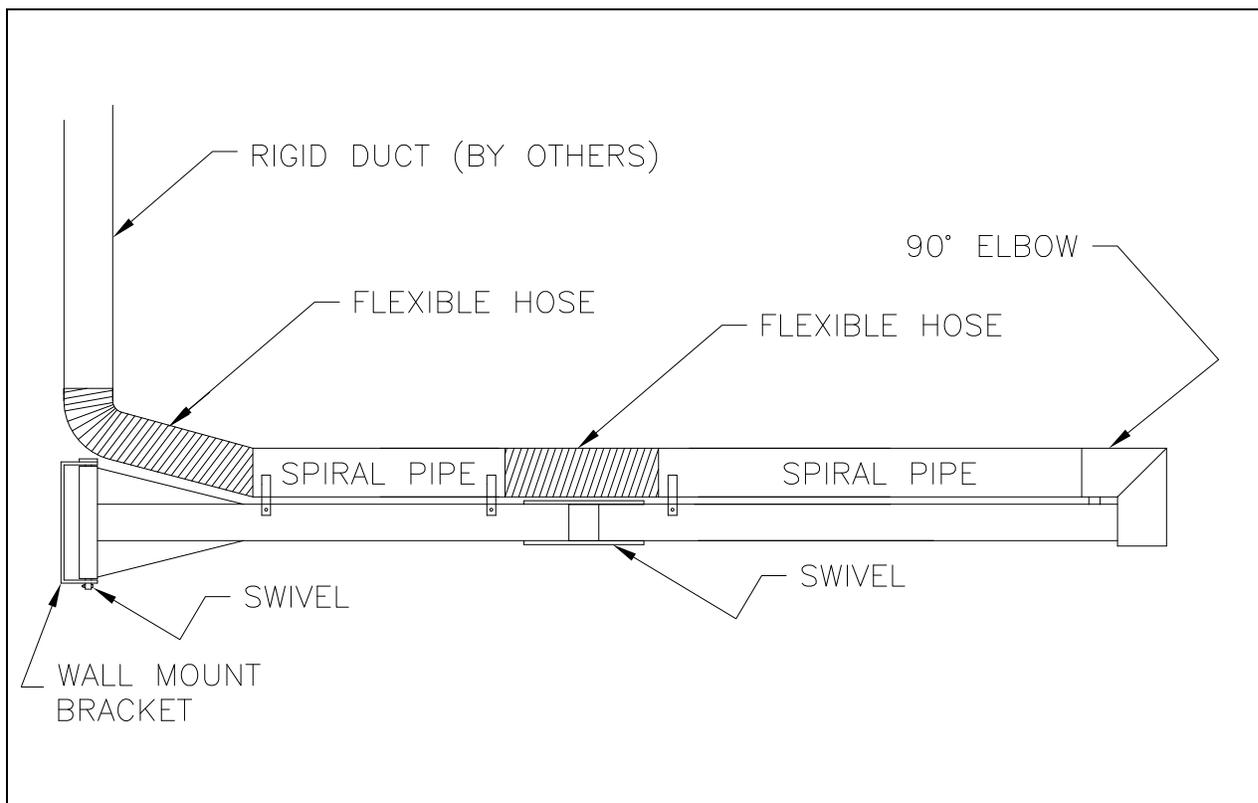

FIG 1 – Extension Boom Assembly
1. The extension boom should be mounted in a location where the rigid duct can be installed as shown in FIG 1. Determine the height of the wall bracket so the boom will not interfere with any system that can damage or effect performance. Rigid pipe should be at least a foot from the top of the wall bracket.
5. Attach spiral ductwork to the steel boom (as shown in FIG 1) using the provided duct braces and bolts. It is recommended to first bolt the duct to the beams using the duct braces, then rivet the ductwork to the braces through the predrilled holes located on the top of the duct braces to insure a rigid connection.
6. Attach flexible hose to the rigid duct and spiral duct using the provided hose clamps. For additional security, drill through the center of the base clamp and the spiral duct. Rivet the flexible hose to the rigid duct and spiral duct through the hose clamps. NOTE: Use the larger section of the flexible hose to connect the vertical rigid ductwork to the boom (trimming may be necessary) and the shorter length at the center swivel of the boom. (As pictured in FIG 1) Test for free movement.